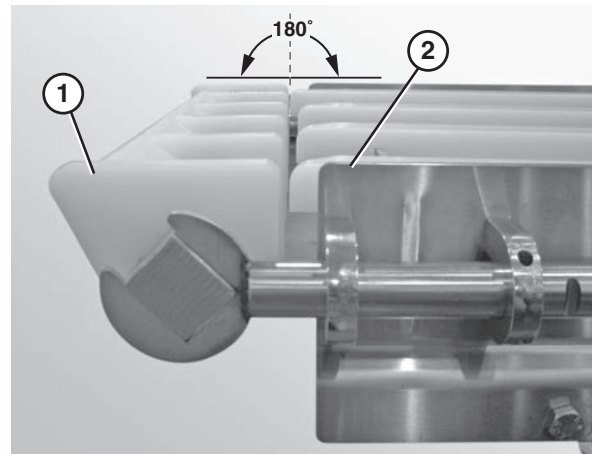

Figure 25
3. Ensure that the nose bar pucks (Figure 25, item 1) are in line with the conveyor frame (Figure 25, item 2).